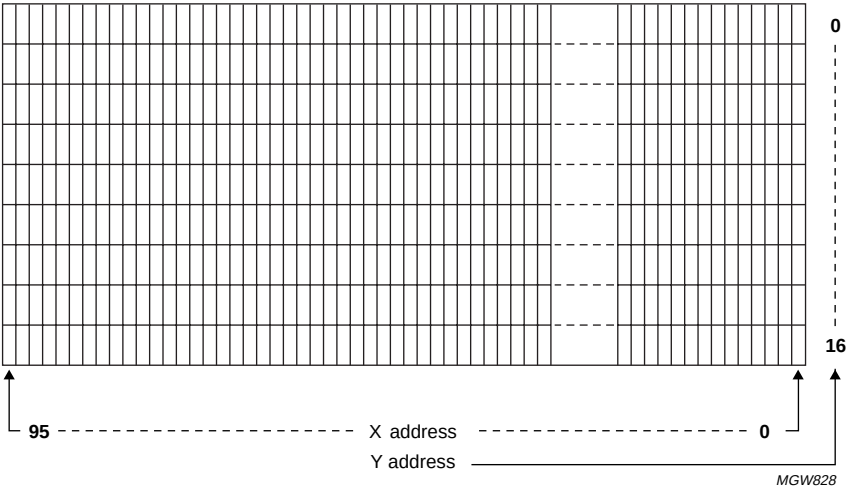

Fig.8 RAM format addressing (MX = 1).
- When MX = 1, the X address space is mirrored; the address X = 0 is then located at the right side (X_{max}) of the display (see Fig.8)